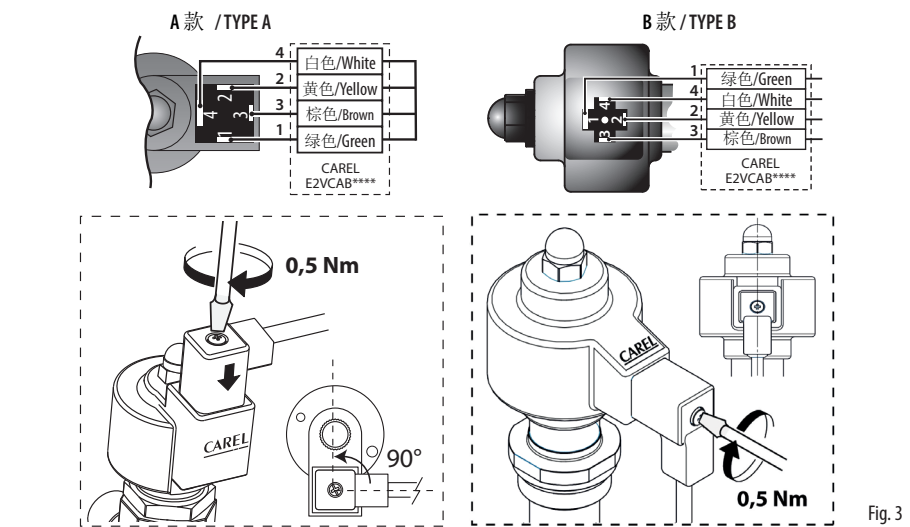

Fig. 3
- 7. Connect the pre-wired connector to the socket on the stepper motor and tighten the screw, applying a force of around 0.5 Nm, following the instructions shown in Fig. 3. Then connect the four-pin end of the cable to the corresponding terminals on the CAREL EVD*** driver or other approved CAREL controller, and set the parameters according to the values shown in the table below.